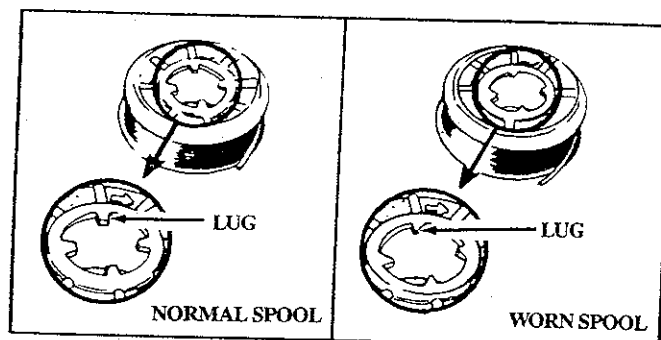

Figure 21
- Pre-wound spools offer the most convenient method for replacing line as well as optimum performance. Be sure to always replace the spool, if the square corners of the drive lugs are rounded off, reduced in size or broken off. Figure 21.
- a. Replace the spool when the square corners of the lugs are rounded off, reduced in size, or broken off. Figure 21.